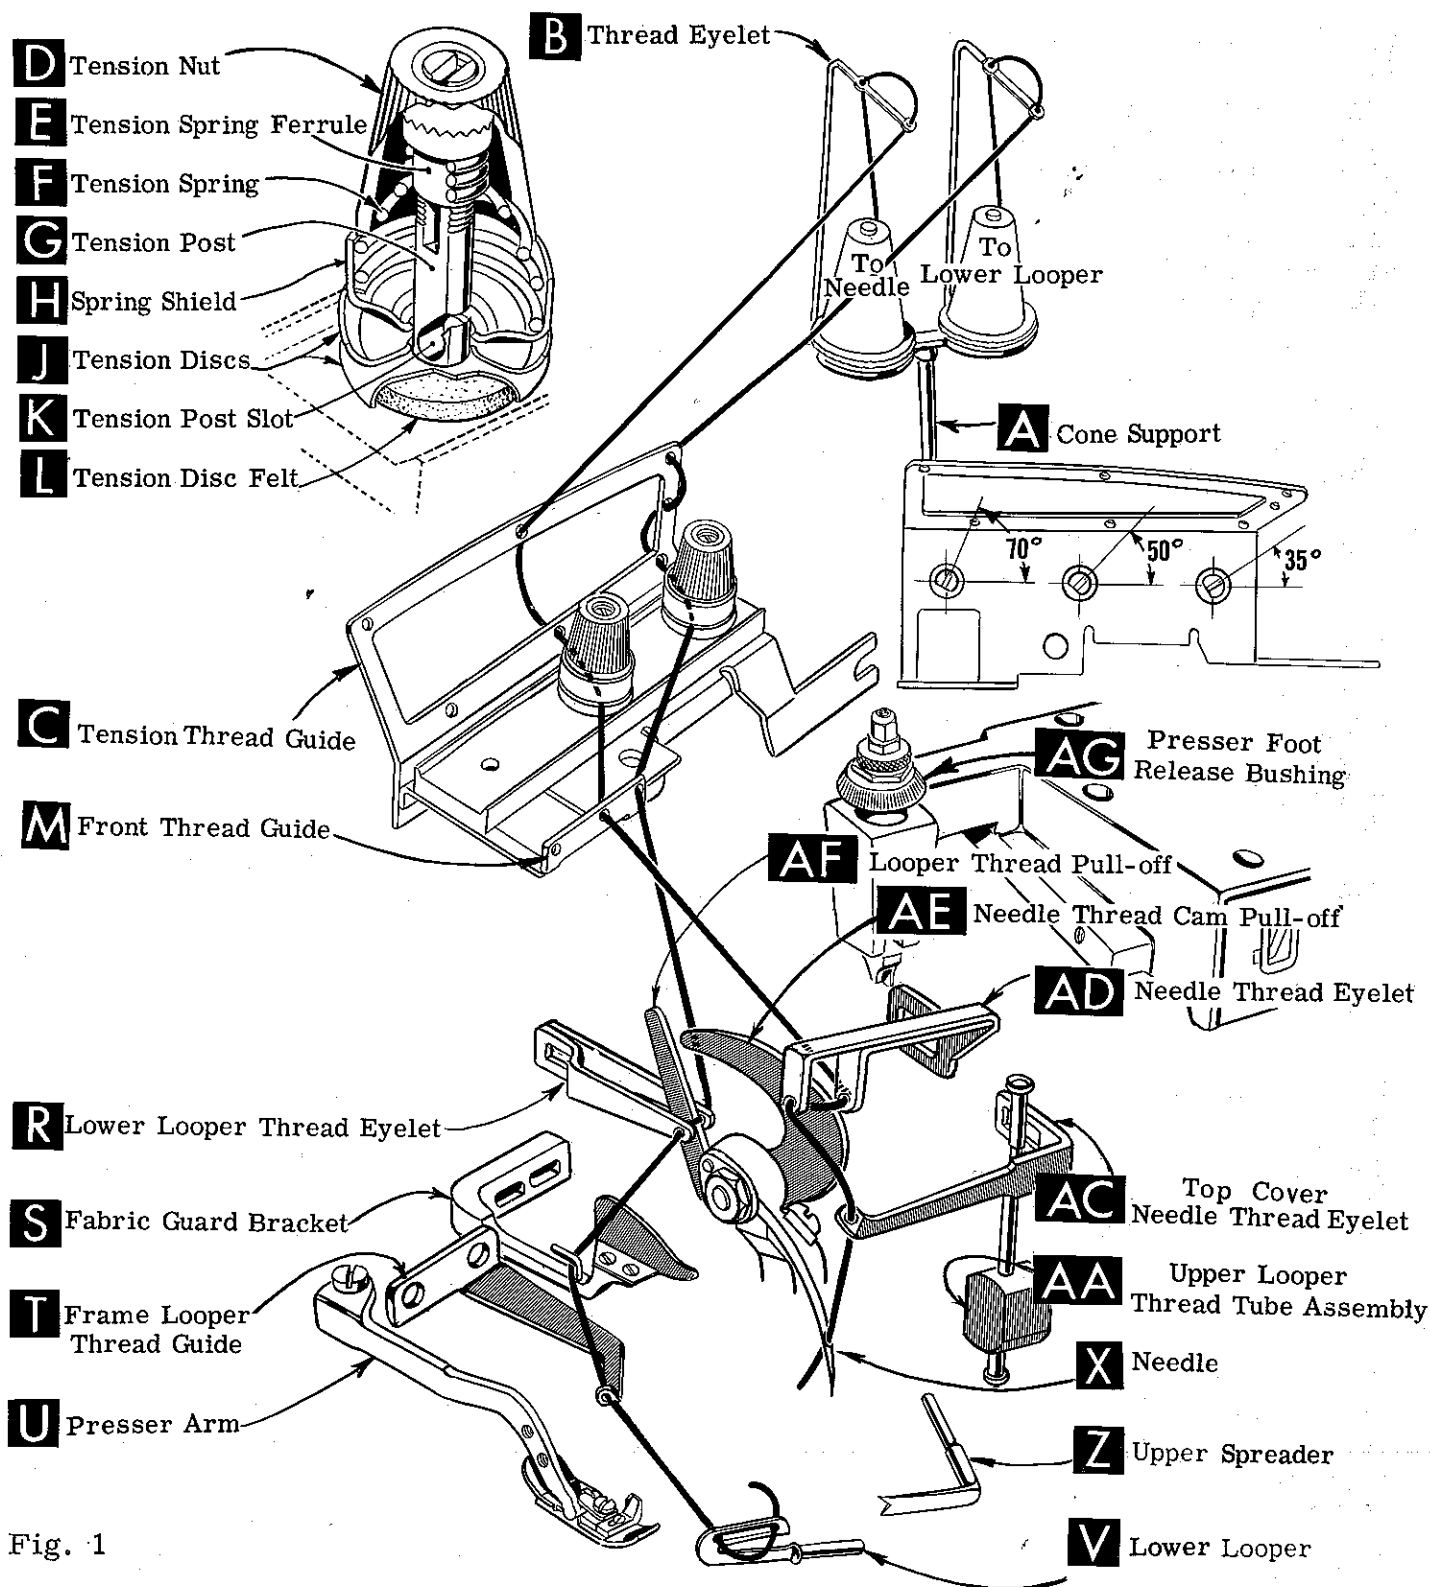

Fig. 1
Release pressure on presser foot by turning presser foot release bushing (AG, Fig. 1) and swing presser arm (U) out of position. Turn handwheel in operating direction until needle is at its lowest point of travel. Using hexagonal socket wrench No. 21388 AU, furnished with machine, loosen needle clamp nut about 1/4 turn. Again turn handwheel until needle is at high position; withdraw needle.
After thread comes from cone on cone support (A, Fig. 1) it is brought up through the back thread eyelet and then down through the front thread eyelet (B). The needle thread is then brought through the upper hole of tension thread guide (C) from front to back and then through the lower hole, from back to front. The lower looper thread is brought through the upper hole of tension thread guide (C) from back to front, through the middle hole from front to back and then through the lower hole from back to front. Both threads then continue between the tension discs (J), through tension post slot (K) in tension post (G) and on through eyelets in front thread guide (M).
Only the parts involved in threading the two thread machines are shown in the threading diagram (Fig. 1). Refer to threading diagram Fig. 1, page 6, in Catalog No. 103 FA for the threading the three thread machines. Parts are placed in their relative positions for clarity.
Double end of thread and lead it through both eyes of lower looper thread eyelet (R, Fig. 1) from right to left. NOTE: Thread must pass in front of looper thread pull-off (AF). Lead thread behind fabric guard bracket (S) and through frame looper thread guide (T). Turn handwheel in operating direction until heel of lower looper (V) is all the way to the left; then thread through both eyes from left to right. Left eye of lower looper can be threaded easily if tweezers are in left hand.
Turn handwheel in operating direction until needle (X, Fig. 1) is at its highest position. Insert needle thread from right to left, through both eyes of needle thread eyelet (AD), under neck of top cover casting; and then down through hole in top cover needle thread eyelet (AC). Thread needle from front.
The amount of tension on needle and looper threads is regulated by two knurled tension nuts (D, Fig. 1). Tension on threads should be only enough to secure proper stitch formation.
While sewing on material, check needle thread control as follows: Usually all needle thread is drawn on needle down stroke. At top of needle stroke, thread should be just tight enough to feed chain off stitch tongue. Stitch tends to pull down slightly if excessive thread is pulled on the up stroke. With needle at bottom of stroke, position needle thread eyelet (AD, Fig. 1) so that needle thread cam pull-off (AE) just contacts needle thread.
With material under presser foot, set lower looper thread eyelet (R, Fig. 1) back and down far enough so thread is a little slack when spreader reaches its extreme left position. Lower looper thread eyelet (R) should be about horizontal.
Setting 1 and 2 should be made quite carefully. If it can be determined by appearance that skip is definitely not a needle loop skip, reposition lower looper thread eyelet (R, Fig. 1) by lowering it slightly and bringing eyelet holes in close to bend in looper thread pull-off (AF). After this change, increase looper thread tension as much as possible without distorting stitch.
Be sure machine is threaded according to threading diagram (Fig. 1).